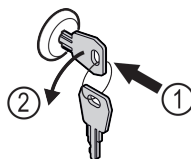

Fig. 174
- ▶ Insert the key. Fig. 174 (1)
- ▶ Turn the key anticlockwise by 90°. Fig. 174 (2)